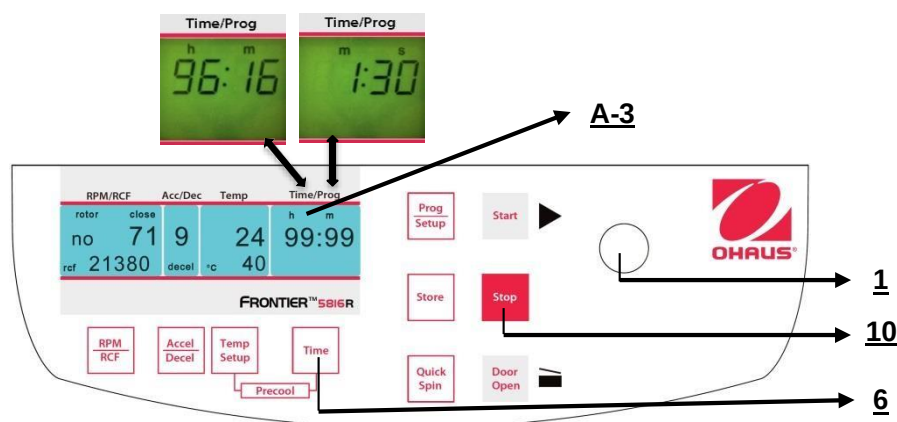

Figure. 20
3. The continuous run "**cont**", which can be interrupted by the key "**Stop**"(10) (refer to figure 20).
If the samples are temperature-sensitive it is useful to pre-cool the centrifuge, the rotor and eventually the buckets to the required working temperature. Therefore, insert the desired rotor and pre-set the respective temperature. By simultaneous pressing the keys **"Temp/Setup"** (13) (refer to figure 20) and **"Time"** (6) you start the run. While running, the unit chooses automatically a rotational speed that is equivalent to 20 % of the permitted rotational speed of the respective rotor. After the pre-set temperature is reached you can leave the pre-cooling run with the **"Stop"** key (10).